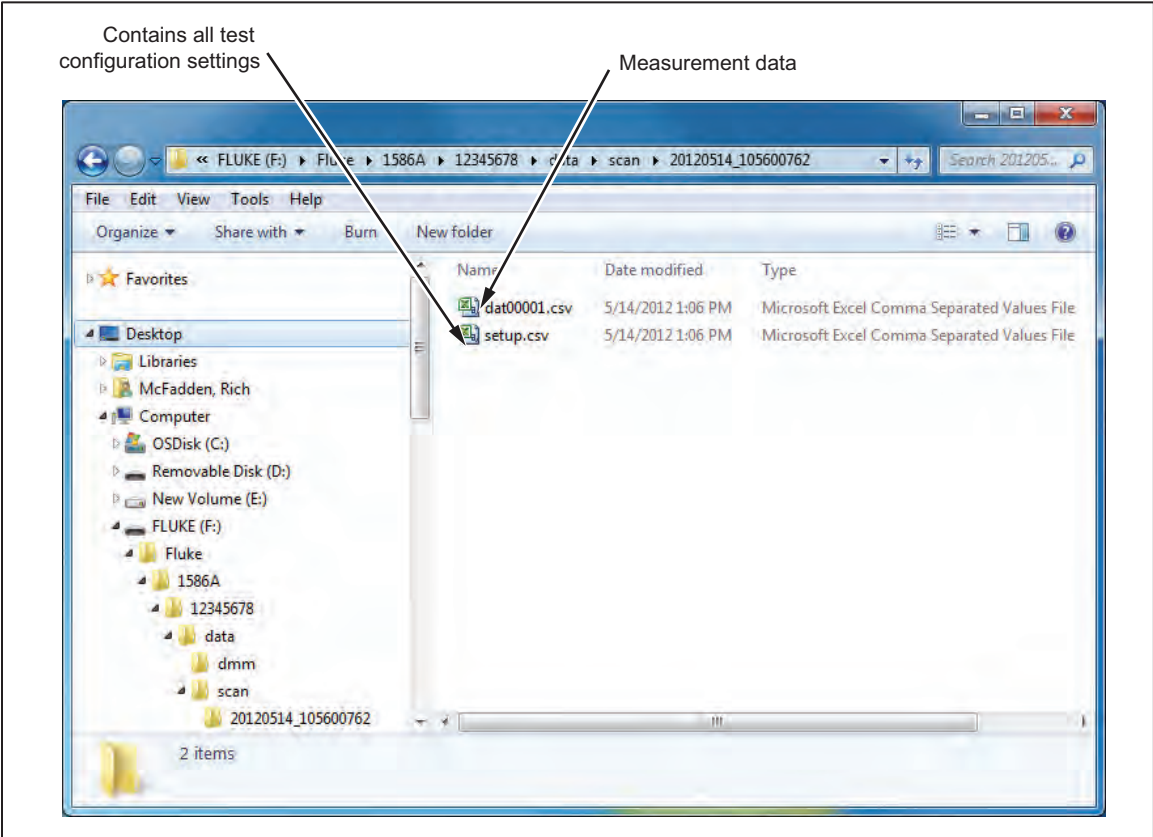

Figure 4-9. Setup.csv and Dat00001.csv Files
5. Navigate to the data folder as follows (see Figure 4-9 for an example of the folder structure):
6. Choose a file to open then double-click on the file. The time-stamped data folder contains two comma-separated values (.csv) files: **setup.csv** and **dat00001.csv**. The setup.csv file contains all the test parameters that were configured when the data was recorded. The dat00001.csv contains all of the recorded measurement data. See Figure 4-9.